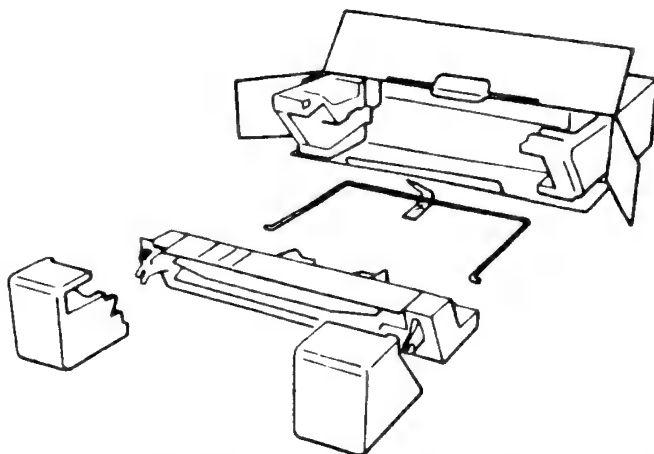

Figure C-4 Unpacking the Cut Sheet Paper Feeder
8. Remove the Cut Sheet Paper Feeder from its package and remove the Paper Stacker from the Cut Sheet Paper Feeder, as shown in Figure C-4.